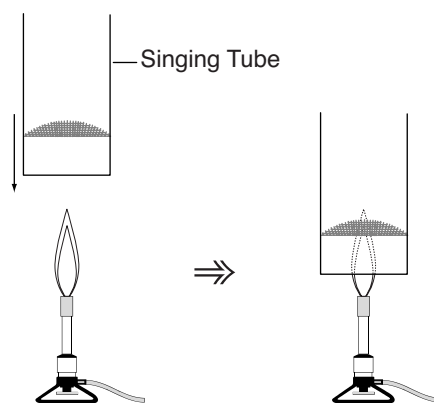

Figure 4.
2. Wearing heat-resistant gloves or oven mitts, hold the metal tube at one end and position the other end of the metal tube vertically over the Bunsen burner flame to directly heat the wire disks inside the tube. See Figure 4.